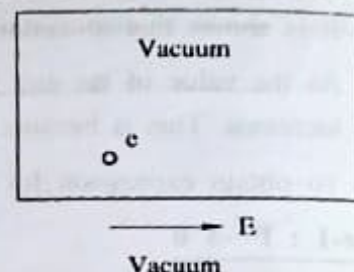

FIG. 1.21 : ELECTRON UNDER THE INFLUENCE OF AN ELECTRIC FIELD
- Thus, $P \rightarrow \infty$ in equation (10) leads to free electron theory.
- Let an external field E is applied on the electron when it is in a vacuum shown in Fig. 1.21.